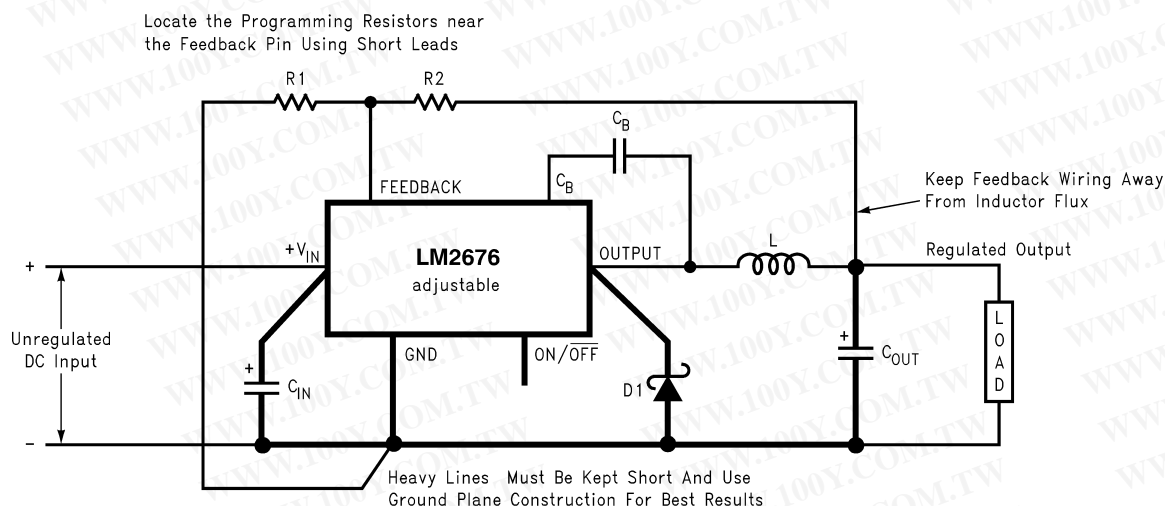

FIGURE 2. Basic circuit for adjustable output voltage applications
Step 2: Select an LM2676S-ADJ. To set the output voltage to 14.9V two resistors need to be chosen (R_1 and R_2 in Figure 2). For the adjustable device the output voltage is set by the following relationship: